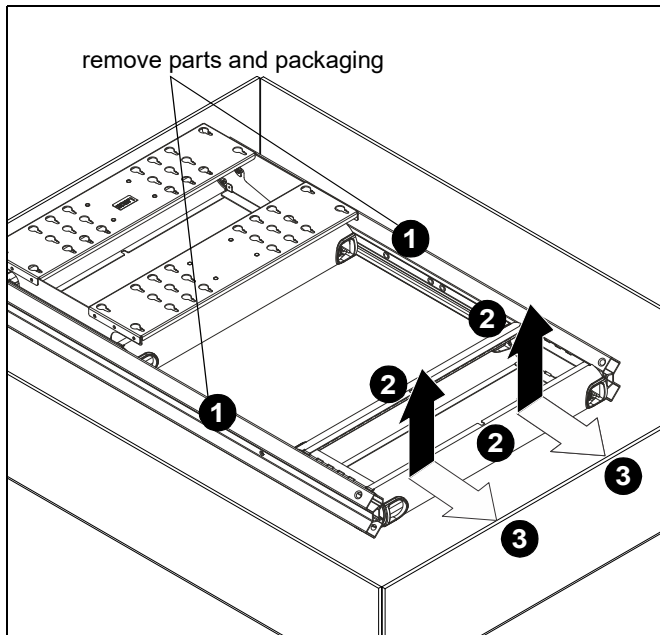

Figure 1
1. Remove all parts and extra packaging from sides of box leaving only the main assembly (N) in the box. (See Figure 1)
2. Lift main assembly (N) up by lifting at the bottom of the assembly. (See Figure 1)
3. Carefully set main assembly (N) base on the edge of box. (See Figure 1)